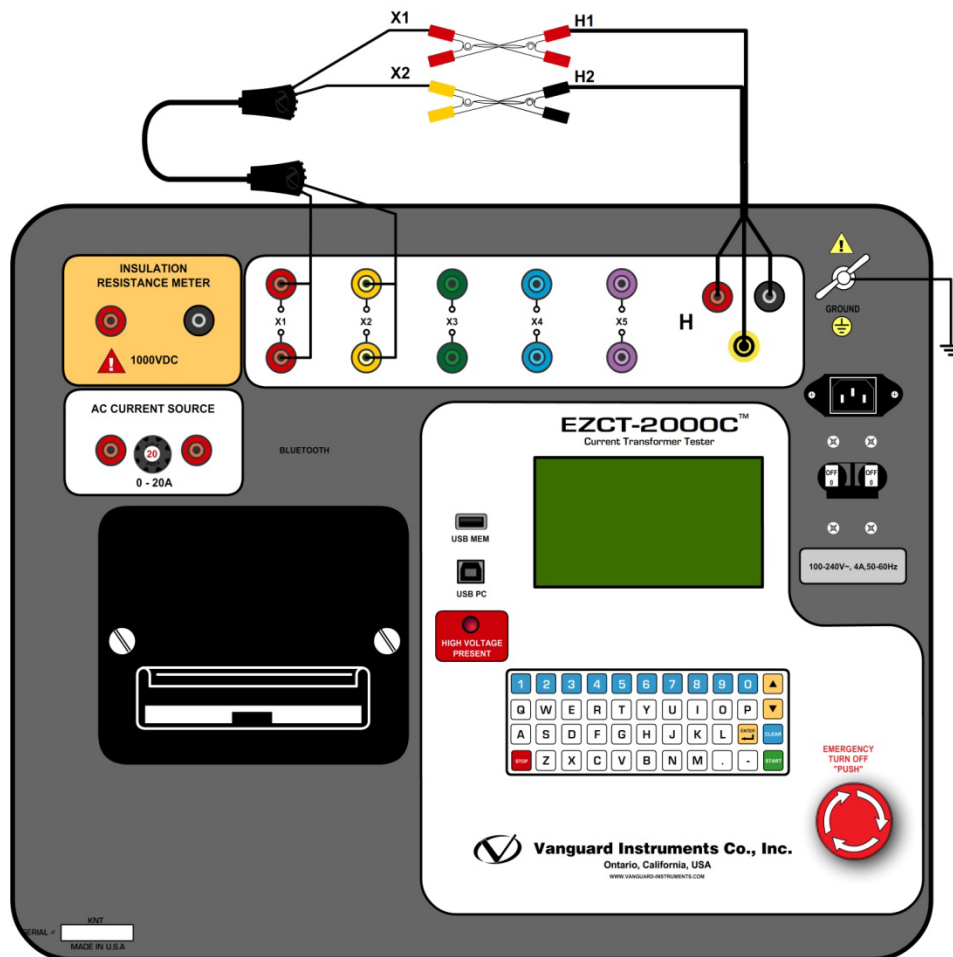

Figure 28. EZCT-2000C Turns Ratio Verification Test Connections
- Connect the X1 test lead to the H1 test lead as shown in Figure 28.
- Connect the X2 test lead to the H2 test lead as shown in Figure 28.